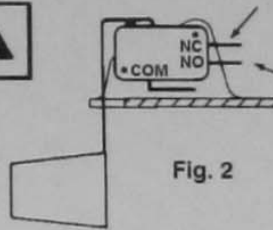

Fig. 2
3. **Safety switch:** The safety overflow switch should be connected to a class II low voltage circuit. To control a thermostatic circuit the COM and NO connections from the safety switch are to be wired in series with the low voltage thermostat circuit to shut down the heating/AC circuit. The COM and NC switch contacts may be used to actuate a low voltage alarm circuit (connected in series) if the heating/cooling system can not be disrupted. The safety switch comes from the factory with leads connected to the COM and NO switch terminals. Typical hook-up of "NC" circuits would be (Figs. 2 & 3).